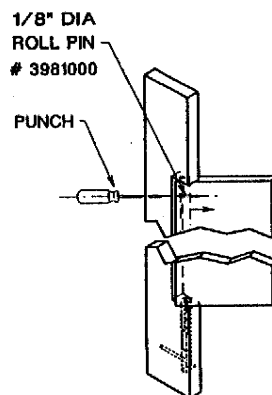
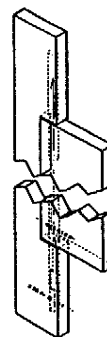

FIGURE 1
FIGURE 2
a. Insert bottom integral hinge cam side, part #6980200, into door with high/low points parallel with door. See figure 1. Pin unit to door by drilling 1/8" dia. hole a minimum of 2-1/4" deep through edge of door and hinge. Lock unit into place with 1" long roll pin part #3981000. See figure 2.
a. With a punch, drive in the roll pin part #3981000 into top of door disengaging the nylon hinge pin. See figure 1.